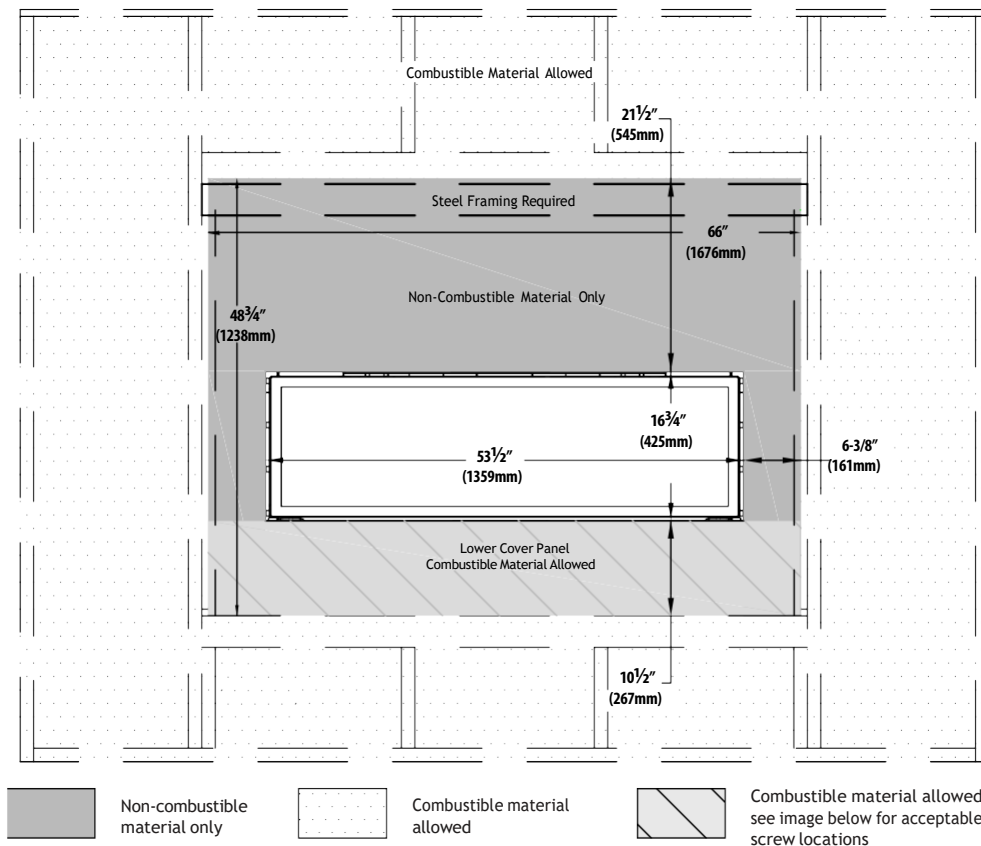
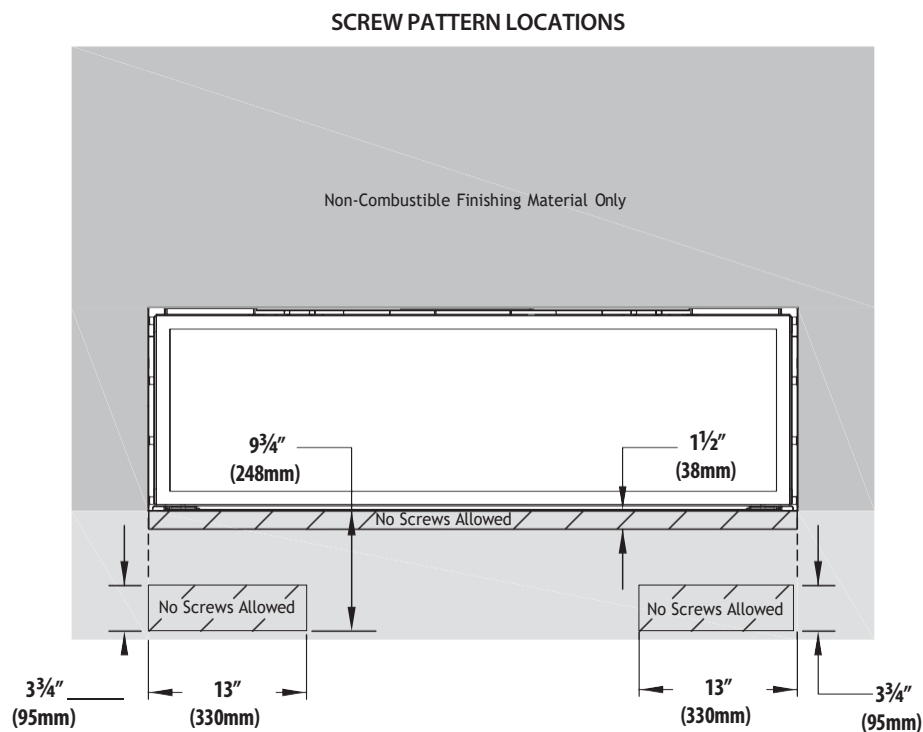

FIGURE 4.3 Minimum Non-Combustible Finishing Dimensions for all installations
FIGURE 4.4 Minimum Non-Combustible Finishing Dimensions Screw Locations for all installations
- Non-combustible material is required at the top and sides of the fireplace. This fireplace is designed to accommodate non-combustible facing material up to 3/4" (19mm) thick. See FIGURE 4.3 and FIGURE 4.4 on page 34 for facing and finishing material dimensions.
- It is acceptable to pre-drill holes and to use self-tapping screws prior to attach the non-combustible material to the top and sides of the fireplace face. Do not use excessively long screws. Screws can only penetrate the fireplace outer shell up to 1/2" (13mm) in the allowed areas. See FIGURE 4.3 and FIGURE 4.4 on page 34.
3. Do not use any screws above the framing when installing the bottom panel to avoid damaging any of the gas and electrical components located behind the panel. Refer to FIGURE 4.4 on page 34 for maintaining the required areas.
- Non-combustible material is required at the top and sides of this fireplace. This fireplace is designed to accommodate non-combustible facing material up to 3/4" (19mm) thick. See **FIGURE 4.3** and **FIGURE 4.4** on page 34.
- It is acceptable to pre-drill holes and to use self-tapping screws prior to attaching the non-combustible material to the top and sides of the fireplace face, screws can only penetrate the fireplace outer shell up to 1/2" (13mm) in the allowed areas. See **FIGURE 4.4** on page 34.
- This combustible material goes on any required non-combustible materials as shown in **FIGURE 4.3** and **FIGURE 4.4** on page 34.